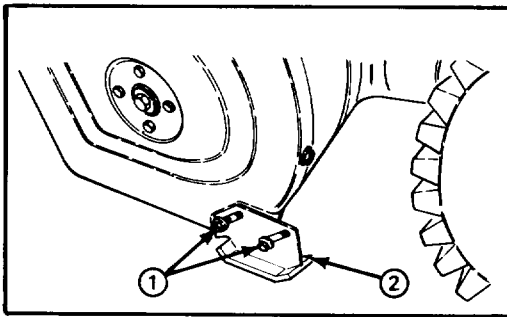

Figure 15
ADJUSTING SKIDS (Fig. 15)
2. Loosen the (4) flange bolts securing both skids to the auger side plates (Fig. 15).